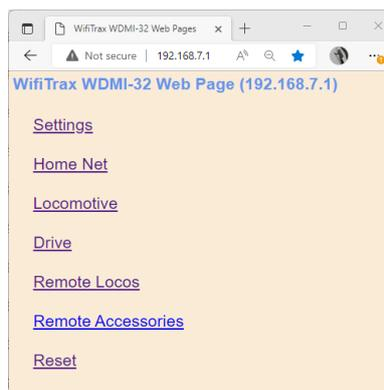

Figure 6 Main Menu of WDMI-32 Module shown in a Browser
- (1) The first thing you have to do is make the WDMI-32 in the loco connect to your router. So, using a computer, tablet or phone connect to its access point wftx_WDMI32_1_XXXXXXX_7. You don't need a password of course.
- (2) Now open a browser such as Chrome, Edge or Safari and enter 192.168.7.1 into the URL text box and hit enter. This will display the main menu of the WDMI-32 module as Figure 6.